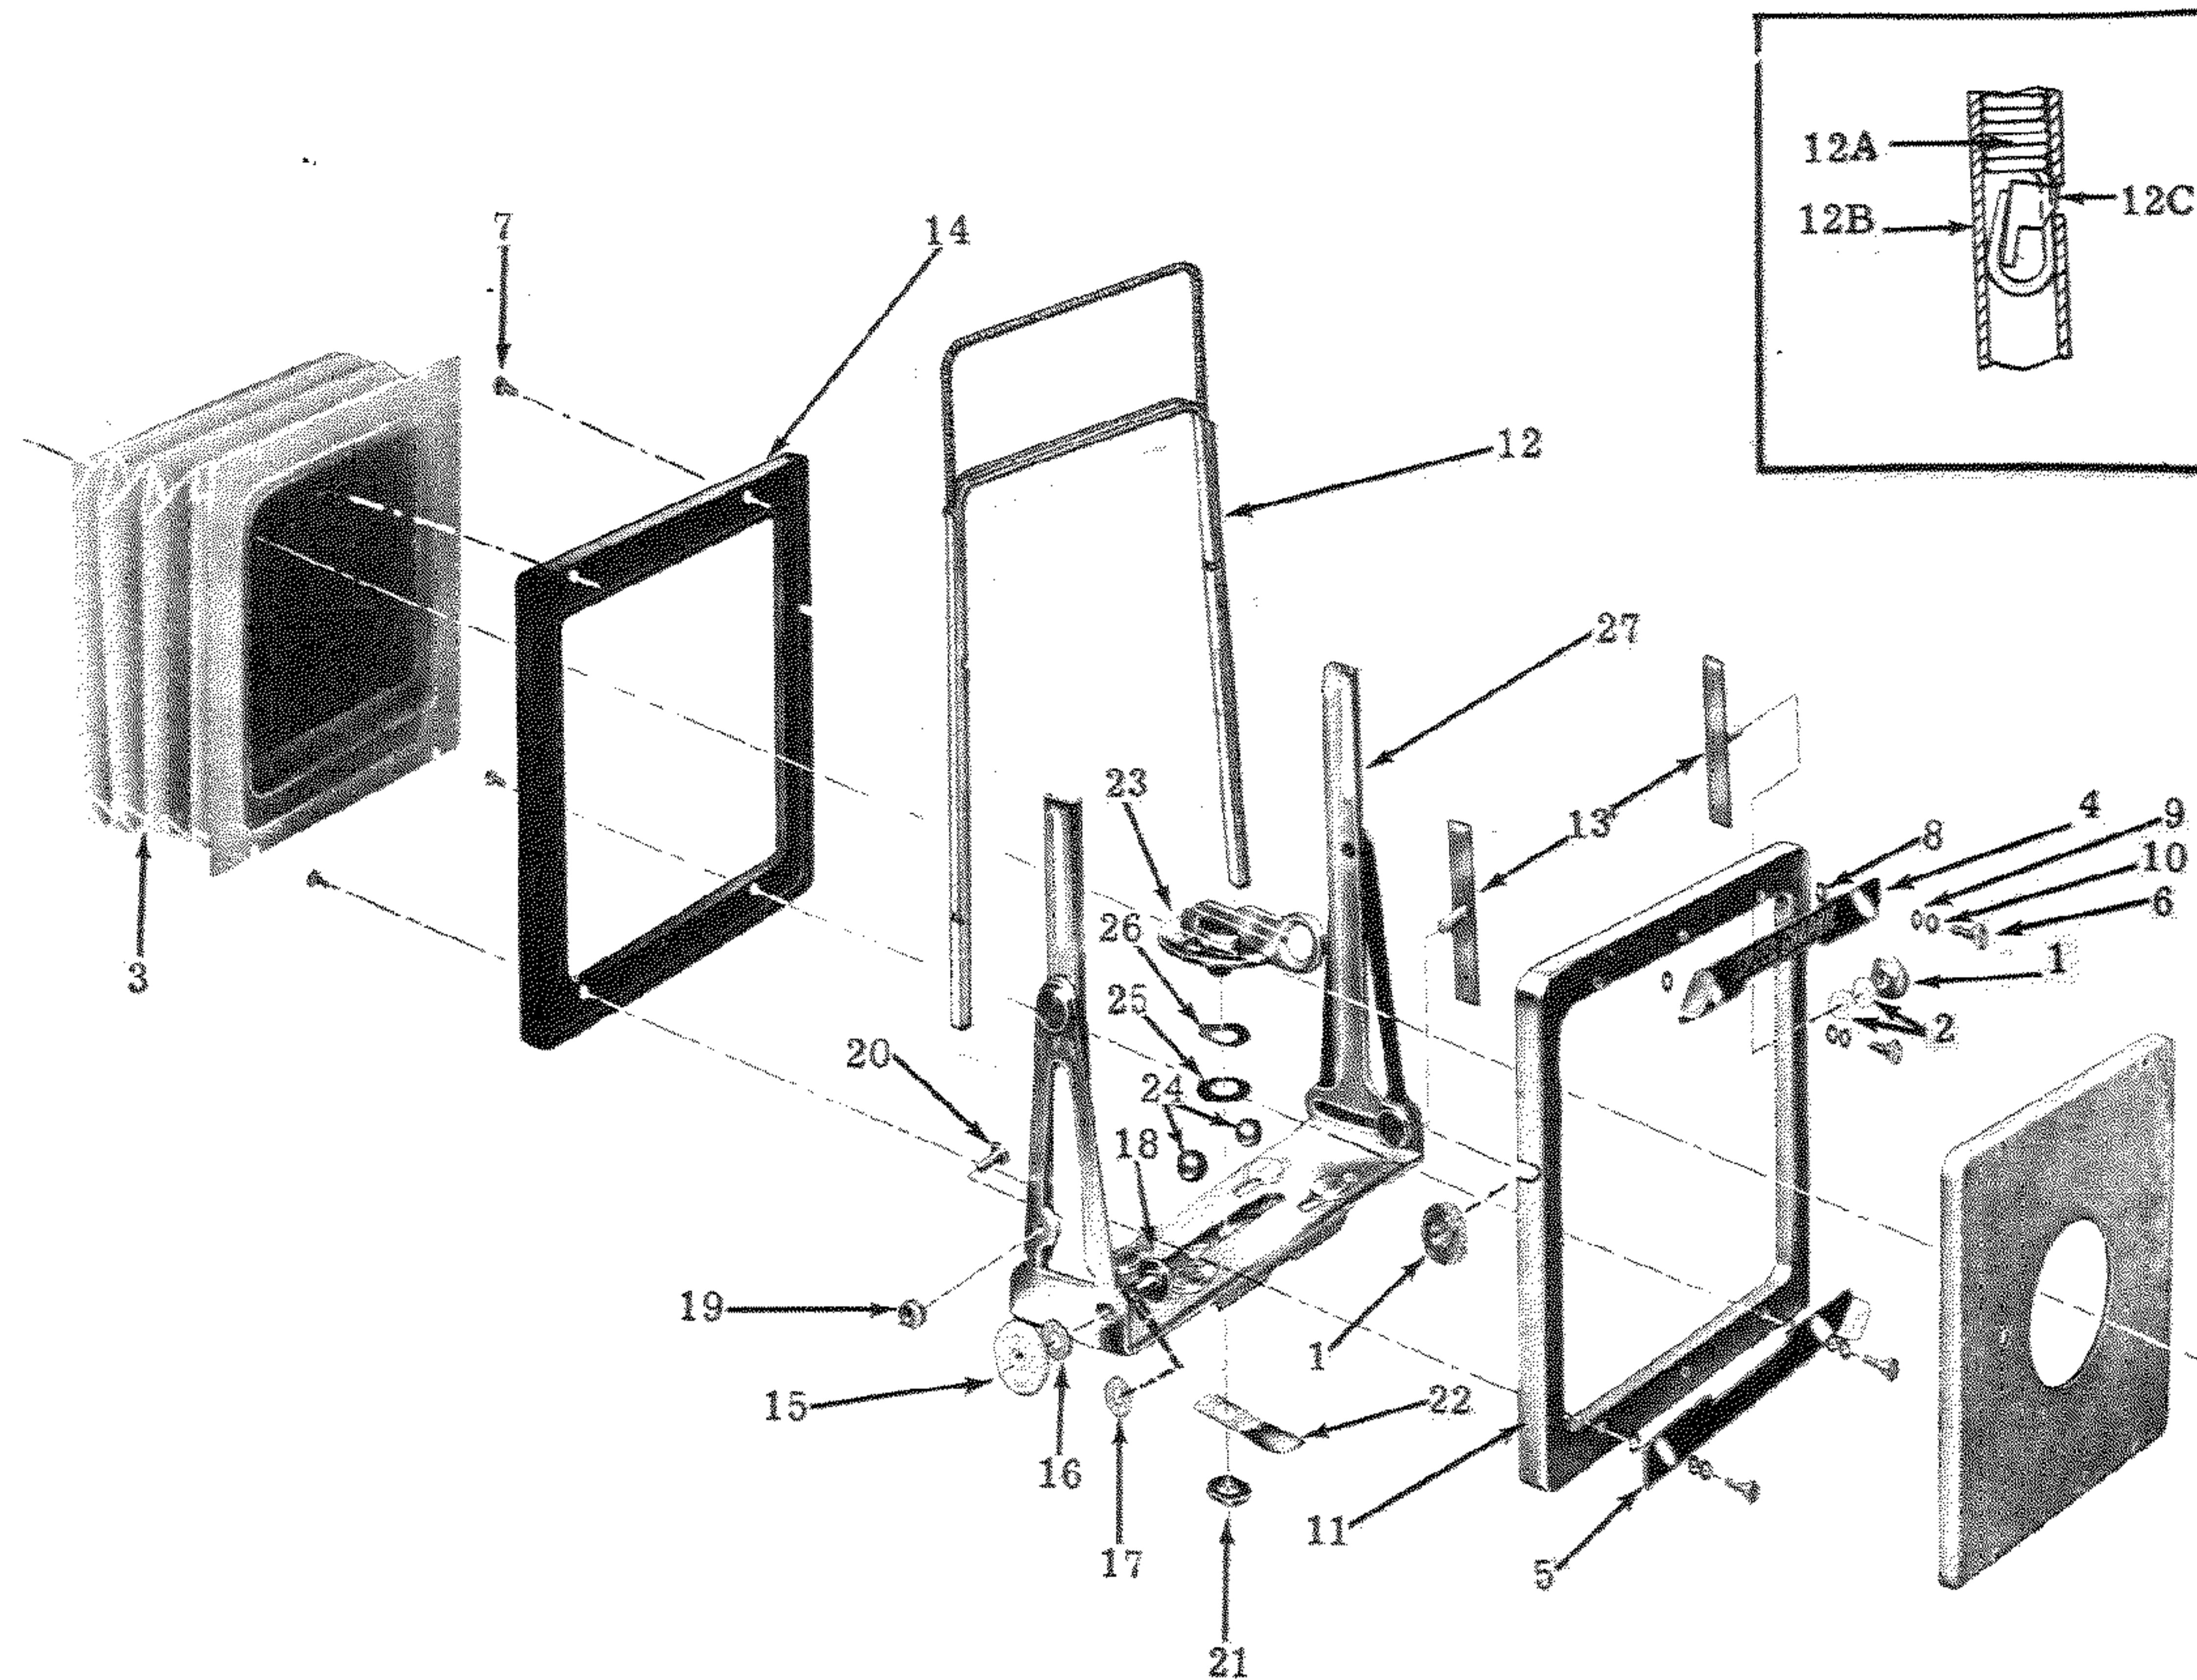

Figure 19. Front Standard Complete
NOTE: If it is not necessary to remove the bellows assembly (3, figure 19), slide the front standard from the bed and proceed from paragraph C.
- c) Set the curtain at "0", (open), and remove the two bellows retaining clips (23).
- d) To remove the bellows from the frame and support section, remove the lower sidelock (5, figure 19) that is secured by two sidelock screws (6). Loosen the two upper sidelock screws (6). Swing the lower edge of the front bellows frame back and drop the upper edge free from the sidelock nut head.
- a) Remove the frame clamp knob (rising front) (1, figure 19) from the right side of the front standard. Slip the manual trip bracket (27C, figure 3) from the stud.
- a) Remove two rising front knobs (1, figure 19) from each side of the frame. The ends of the stud securing knobs are staked. Remove the upper and lower sidelocks (4 and 5) that are attached by sidelock screw (6) flat washers (8 and 9) and spring washer (10).
- b) Spread the standard support assembly (27) enough to slide the lensboard frame upward and free of the channel.
- c) Lift the outer front frame assembly (11) evenly from the assembly to expose the inner parts of the frame and remove the finder complete (12).
4) Lateral Shift Spring and Lock Lever Disassembly. The lever assembly (23) and the shift locking spring (22) are secured by the special hex nut (21). Unscrew the special nut (21) from the bottom of the standard support assembly (27). The shift locking spring may now be removed. Unscrew the slotted stud
1. The bellows (3) should be wiped free of dirt on the outside with a damp cloth. Scrub the inside surface with a stiff brush (old toothbrush) and blow out all loose dirt and grit.
3. Clean the sliding area of the finder (12A, figure 19), the finder frame (12B) and the front frame clamp plate assemblies (13) in solvent (AN-T-37a) and dry before reassembly.
4. Squareness adjustment is set by the front standard eccentric (20) and special lock head nut (19) located on each side.
2. Inspect finder complete (12, figure 19) for squareness.
1. Lateral Shift and Lock Lever. To the lever assembly (23, figure 19) assemble the spring washer (26) and the flat washer (25). Fit the two steel balls (24) into their position between the lever assembly (23) and the standard support assembly (27) and thread the lever assembly stud through the standard support assembly. Lay the shift locking spring (22) in position and assemble the special hexagon nut (21).
2. Adjusting Lock Lever. Check the front standard to determine how tightly it will lock, by placing on the sliding yoke of the bed and setting the lock lever (23). It should clamp tightly enough to prevent slippage when the bellows and lens are assembled. To tighten the lock lever, loosen the lock nut (21) on the bottom side and turn the screw in a counter clockwise direction; to loosen the lock, turn the screw in a clockwise direction and tighten the nut.
b) Thread the manual trip bracket (27C, figure 3) through the bellows hangers and mount the bracket over the right front frame clamp plate stud. Assemble the frame clamp knob (1, figure 19) and peen the first thread of the stud at one point.